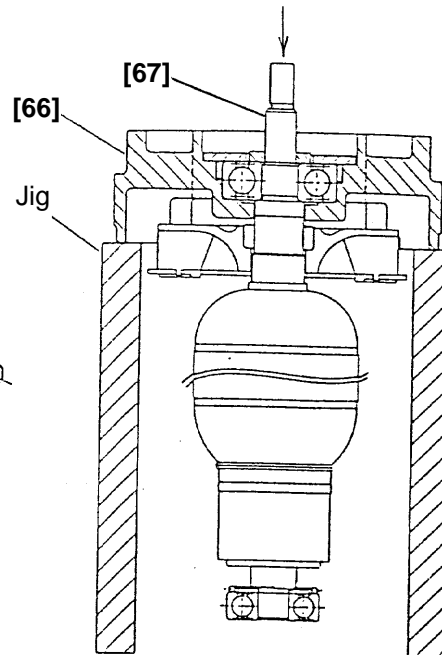

Fig. 4
- (1) After removing the Gear Cover Ass'y [51] and the Drive Shaft [57] as indicated in 8-1-4, remove the four Tapping Screws (W/Flange) D5 x 35 [65] so that the Armature [67] and the Inner Cover [66] can be taken apart from the Housing Ass'y [72].
- (2) Loosen the U-Nut [53] and remove Pinion (A) [36], Feather Key [49] and Space Washer [37] and press on the end face of the Armature by hand press while holding it with the jig indicated in Fig. 4 so as to remove the Armature.